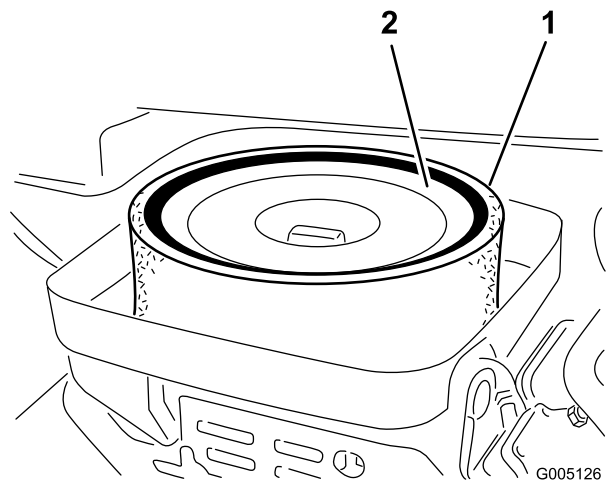

Figure 33
3. If the foam element is dirty, remove it from the paper element (Figure 33). Clean it thoroughly, as follows: